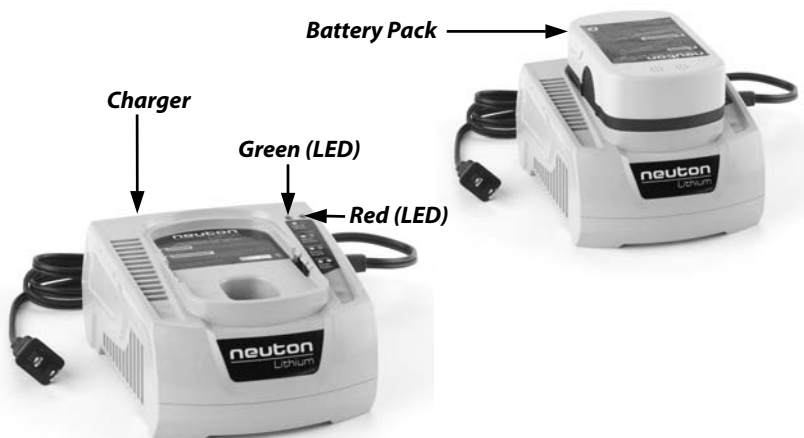

Figure 5
1. Plug the Charger into a standard household electrical outlet (**Figure 5**). The Green LED will glow.
2. Place Battery Pack in the Charger (**Figure 5**). The Battery Pack and Charger have keyways so they will fit together only one way. When properly connected, the RED LED will glow (**Figure 5**). If the RED LED flashes, this indicates a defective or wrong type Battery.
3. The Charger Indicator Light will glow RED continuously while charging. When fully charged the RED LED will change to GREEN, the Charger will shut OFF automatically after two (2) hours and the LED will remain GREEN.